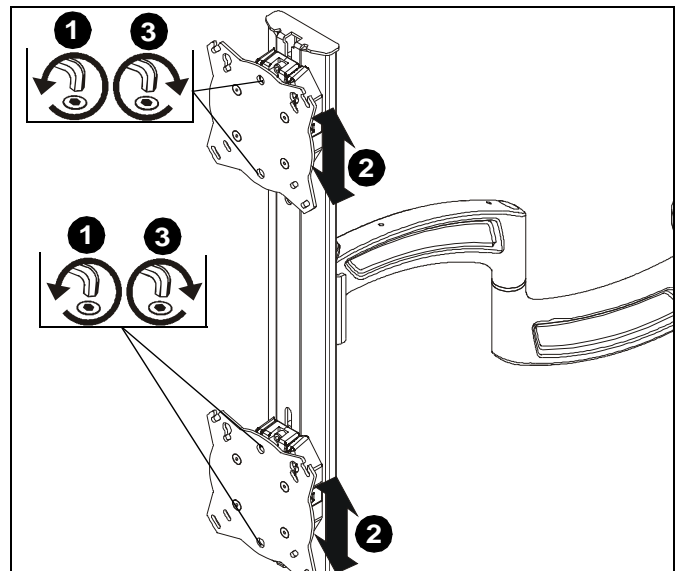

Figure 16
1. Loosen height adjustment screws for specific display that will be adjusted. (See Figure 16)
2. Adjust display to desired height. (See Figure 16)
3. Tighten height adjustment screws to lock display's position. (See Figure 16)